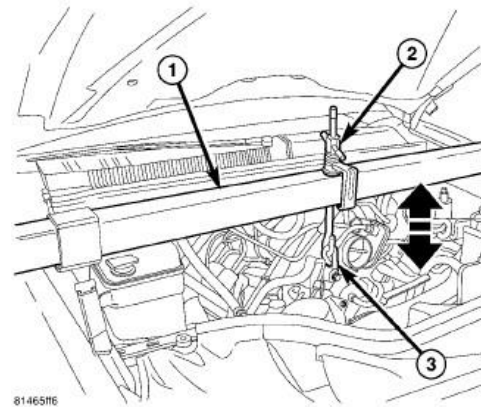

Figure 1 – Engine Lifting Fixture
5. Support the engine using **Fixture, Engine Lifting 8984C Fixture, Driveline Support 8534C** or equivalent (Figure 1).